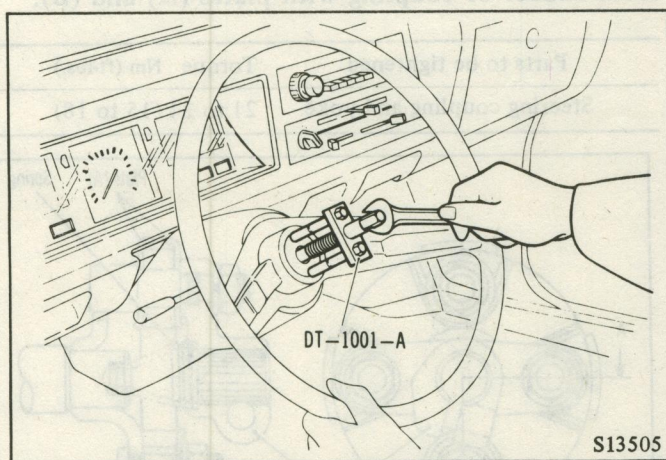

Fig. 6 Removing the Steering Wheel
(2) Remove the horn pad and steering wheel retaining nut, then remove steering wheel using special tool (DT-1001-A) as shown in Fig. 6.